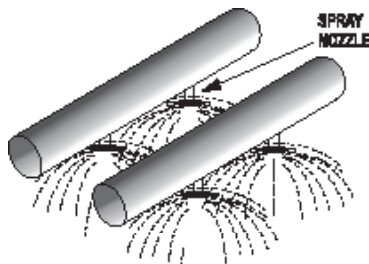

Figure 10 – 360° Umbrella Type Spray
1. Check to see if the nozzles are producing the spray pattern shown in Figure 10.